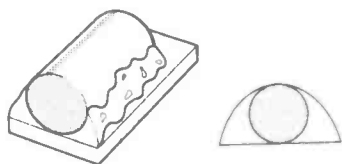

Figure 1. With poor wetting, caused by dirt on the connections, the solder forms a convex angle or 'bulge' around the joint, and may break up into blobs.
**Figure 1. The circuit. Every switch has two connections and a centre off position (the fact that 11 of the switches are shown connected is purely an eccentricity of the drawing). It is by combining these connections that a variety of resistances is obtained.**